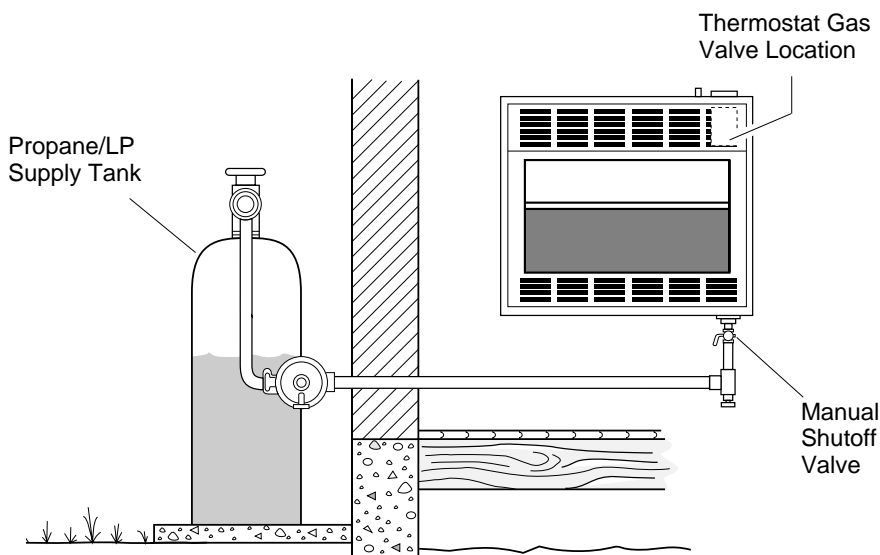

Figure 23 - Checking Gas Joints
3. Check all joints from propane/LP supply tank to manual shutoff valve (see Figure 23). Apply mixture of liquid soap and water to gas joints. Bubbles forming show a leak.
4. Check all joints from manual shutoff valve to thermostat gas valve (see Figure 23). Apply mixture of liquid soap and water to gas joints. Bubbles forming show a leak.